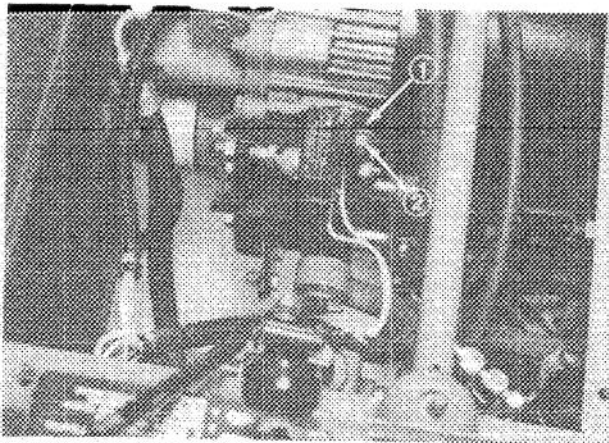

Figure 69
4. Loosen two locknuts securing pump plate so plate is free to move (Fig. 69).
5. Start engine and rotate pump plate (Fig. 69) in either direction until wheel ceases rotation.
1. Pump plate 2. Locknut (2)
6. Stop engine and tighten locknuts to secure pump plate (Fig. 69).